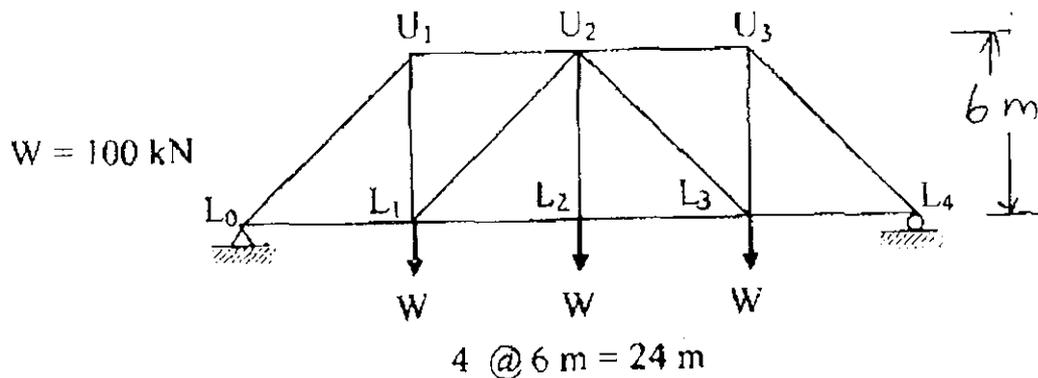

Fig. 3. (Qn. 12(a))
12. (a) Find the forces in the members of the truss shown in fig. 3.